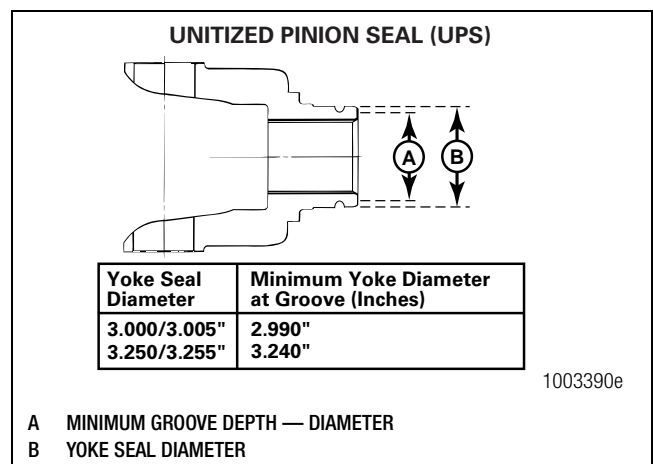

Figure 4.1
- **If you find grooves on the yoke:** Use calipers to measure the groove diameters. If any groove diameter measures less than the dimensions shown in Figure 4.1, replace the yoke.